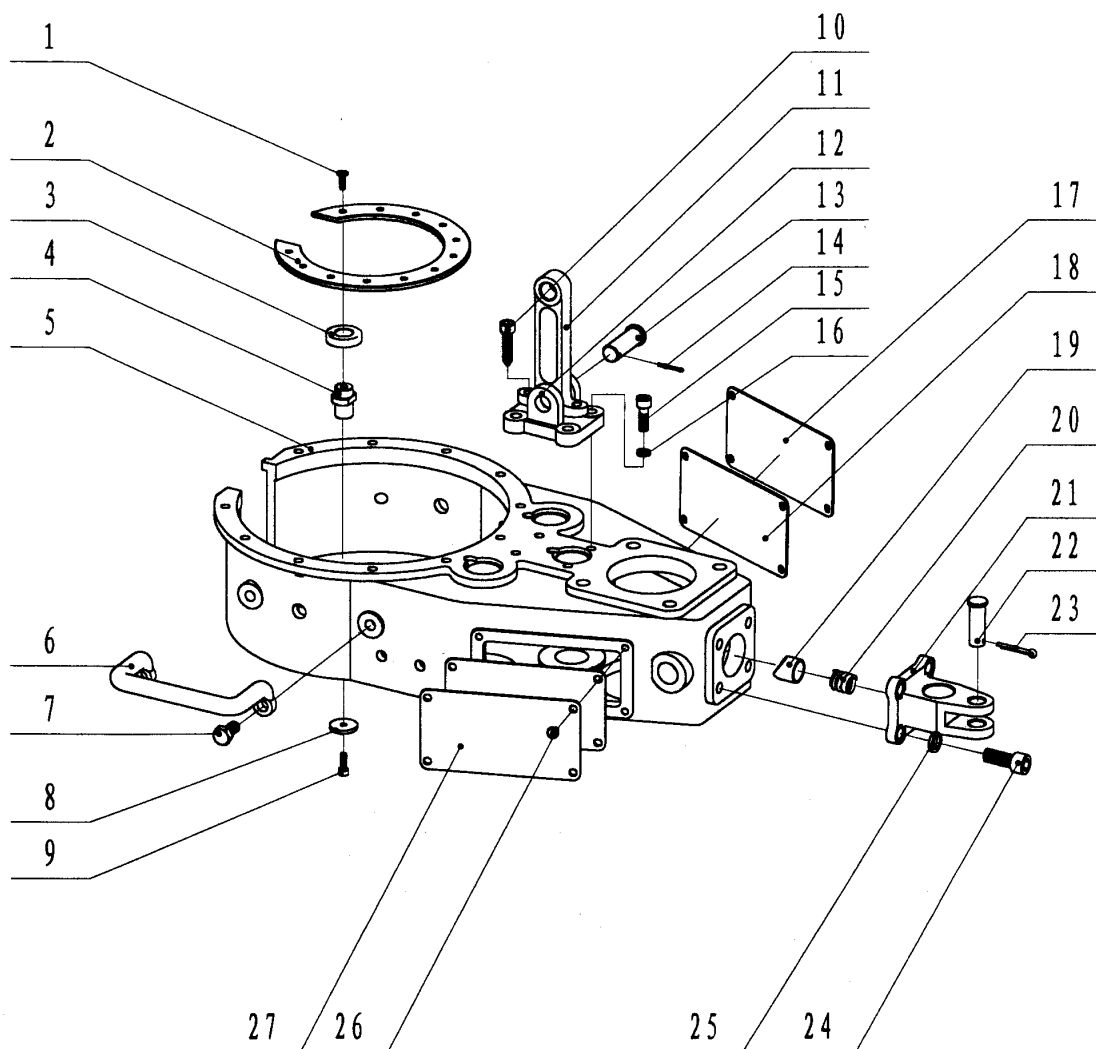

Fig 6
- 8. 2. 4 Shell and its fittings (Fig 6, Table 6)
9.2.4 Shell and its fittings (Fig 6, Table 6)